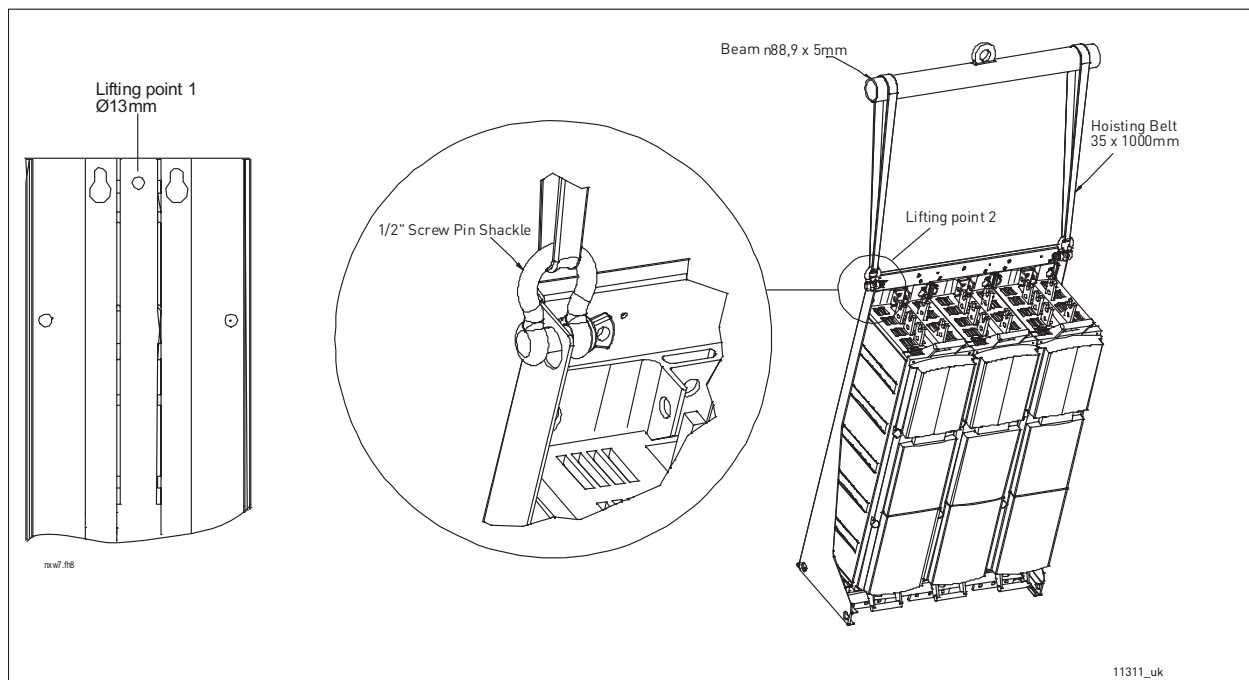
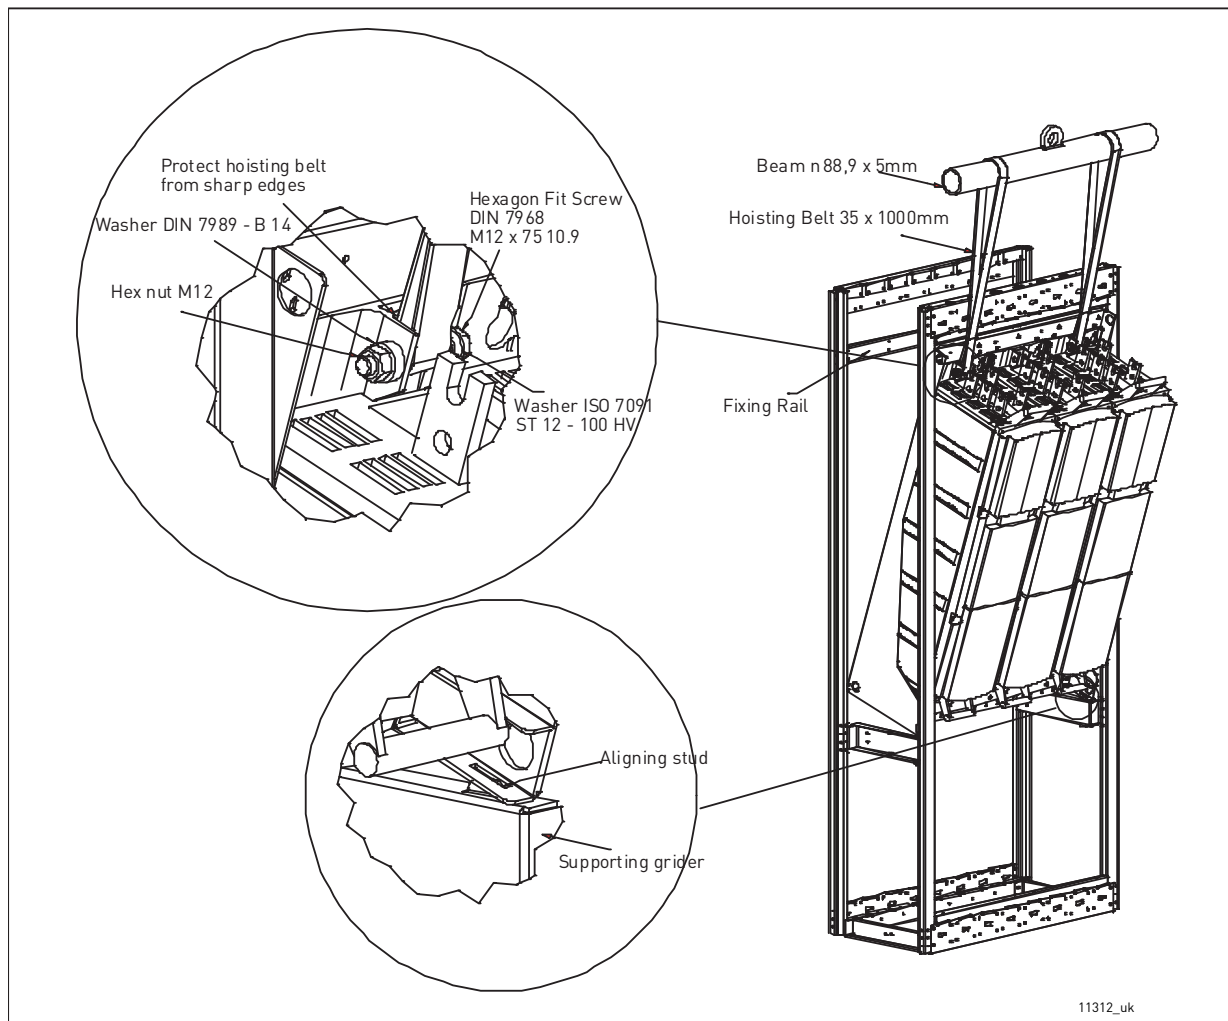
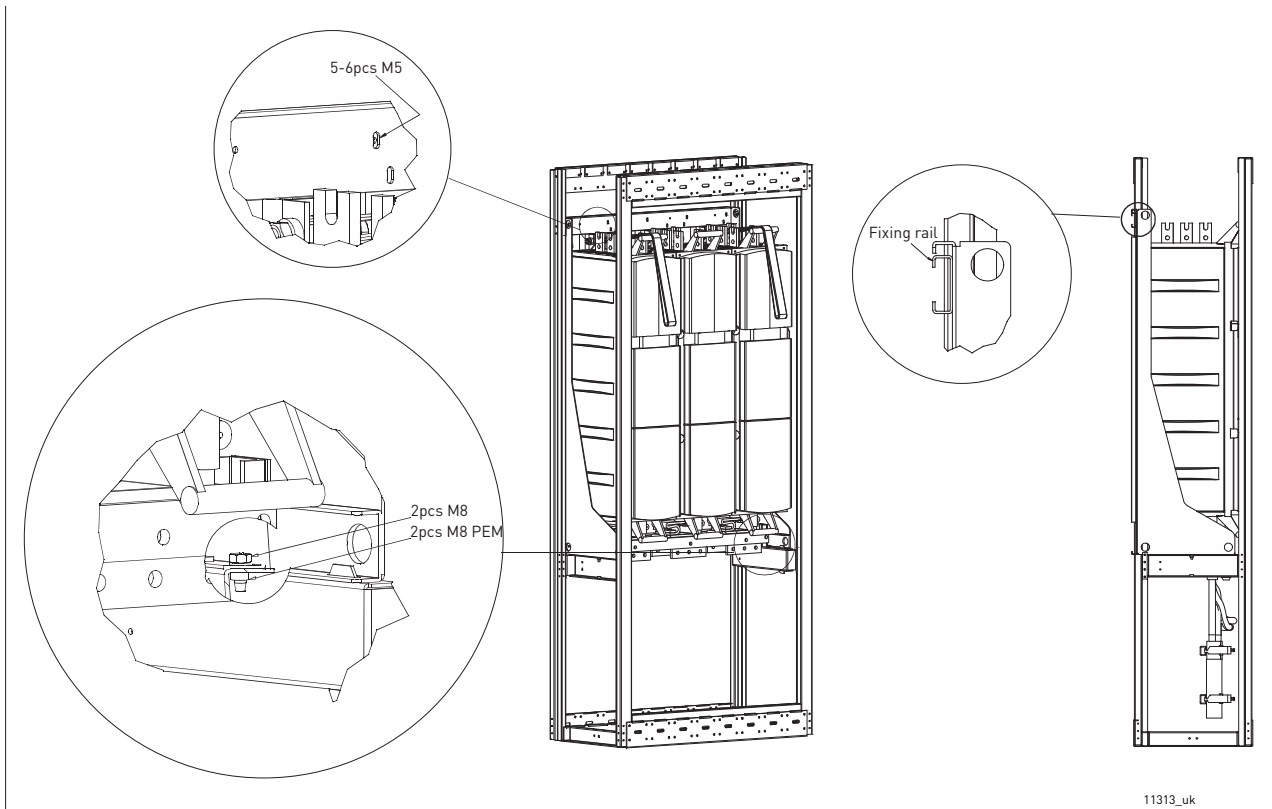

Figure 3. Lifting points for drives consisting of one module (left) and several modules
Figure 4. Lifting of drive into a narrow mounting space
Figure 5. Securing the drive to the cabinet frame
For units with no mounting bracket (see Chapter 5.1.2.1), the best place for hoisting is the hole(s) in the middle of the mounting plate (Lifting point 1). VACON® NX Liquid-Cooled drives consisting of several modules can the most safely and easily be lifted by the holes in the mounting bracket (Lifting point 2) using a screw pin shackle. Pay also attention to the recommended dimensions of the hoisting belt and the beam. See Figure 3.
In such case, follow the lifting procedure described in Figure 4. The mounting becomes easier and safer if the drive can be laid on a supporting girder fixed on the cabinet frame. We also recommend to use an aligning stud to guarantee an easy and safe mounting.
To additionally stabilize the cabinet with the drive, we recommend to mount a fixing rail on the back of the cabinet, to which the top of the drive can be fastened with 5 or 6 M5 screws. The cut-out is compatible with Rittal or Veda cabinets. Also secure the drive with M8 nuts and studs to the supporting girder. See Figure 4 and Figure 5.
**NOTE!** Never lift a drive from the plastic handle or handles with an elevating device, such as jib crane or hoist. Recommended lifting procedure for these units are as described in Figure 3 and Figure 4.